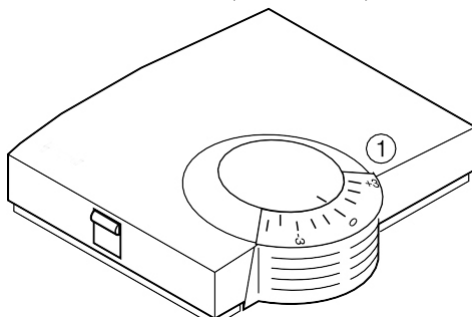

Fig. 5: HCW 82
- Select the desired change of the preset temperature at the adjustment dial (1) (see Fig. 5) (settings on the scale in  $^{\circ}\text{C}$ ).
- Check whether the adjustment dial is in the position shown in Fig. 5.